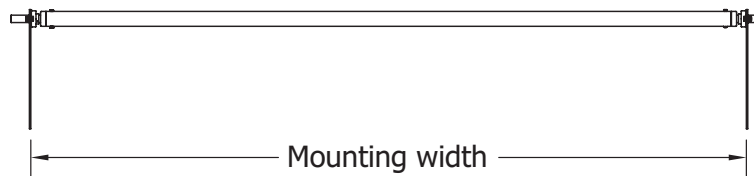

Figure 35-3
- 2) Figure 35-3. Set the width of the two mounting plates to the width of where they will be mounted on the bed.